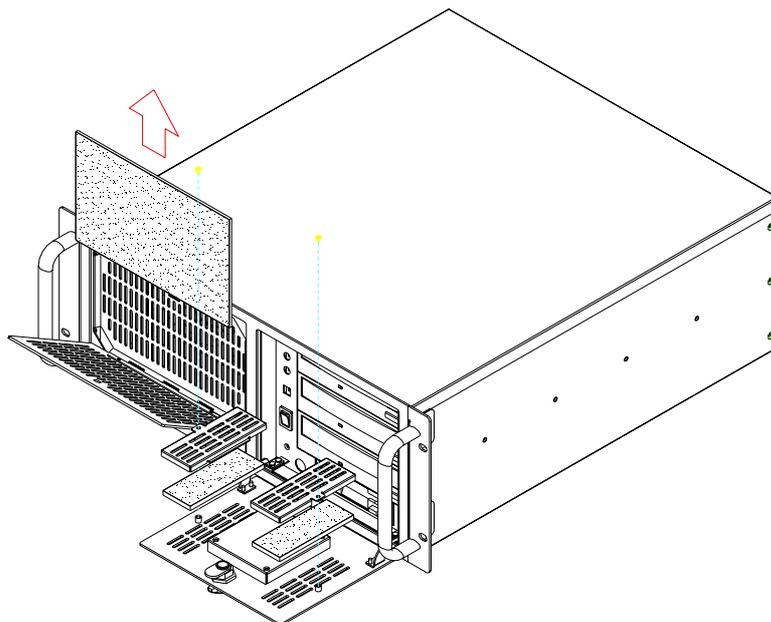

Figure 3.7 Replacing the filters for ACP-4000/IPC-610-H
3. Put the new filters in place and then fasten the screws. (see Figure 3.7)